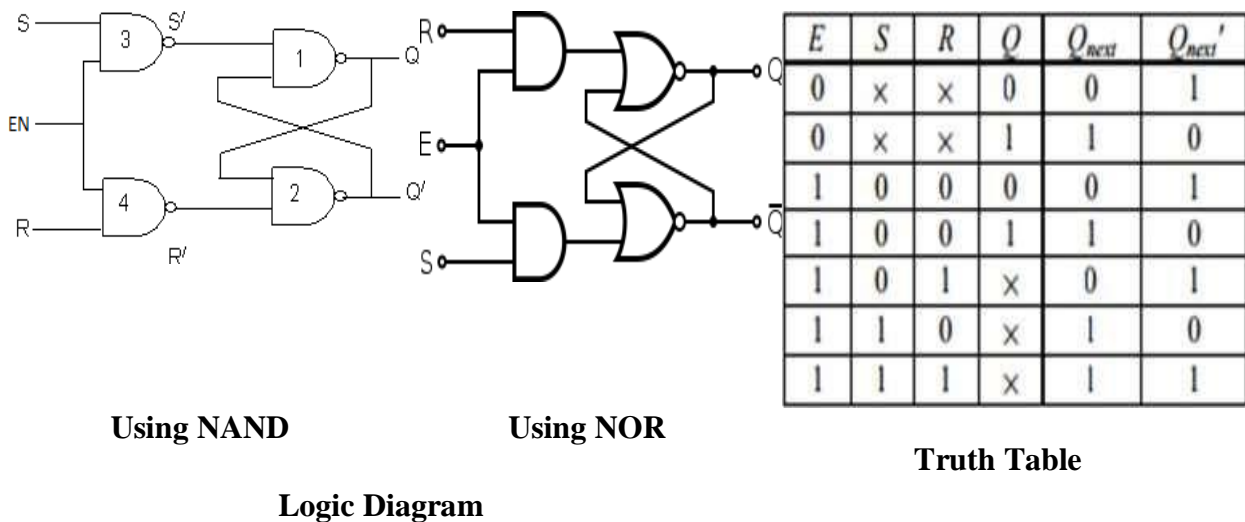

Fig.7.2: SR Latch With Enable Input
1. Connect the logic diagram as shown in Fig. 7.2